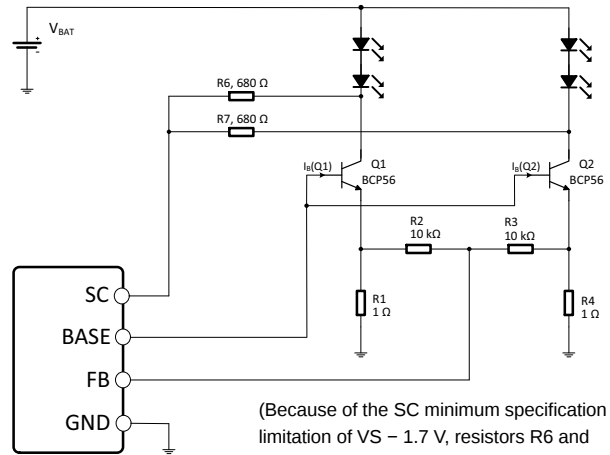
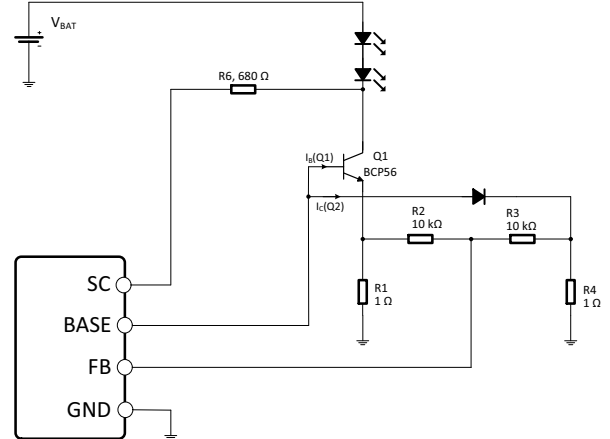

Figure 17. Driving Multiple Strings
Figure 19. Open Circuit Equivalent
Figure 17 along with Figure 18 and Figure 19 highlight the use of the NCV7692 device with multiple strings connected to a common drive BASE pin and using external resistors to tie additional strings to a common feedback point (FB). The FB pin will maintain regulation with the FB pin at 152 mV.
It shows the change in BASE drive which occurs with an open circuit in one of the strings. The drive current out of BASE changes from $(I_b(Q1) + I_b(Q2))$ to $(I_b(Q1) + I_c(Q2))$ as regulation will try to maintain in the loop to get 152 mV on FB. Figure 19 shows the equivalent circuit when an open load occurs.